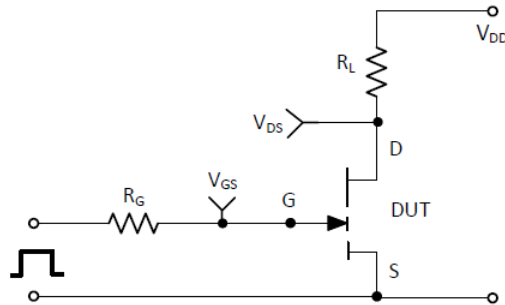
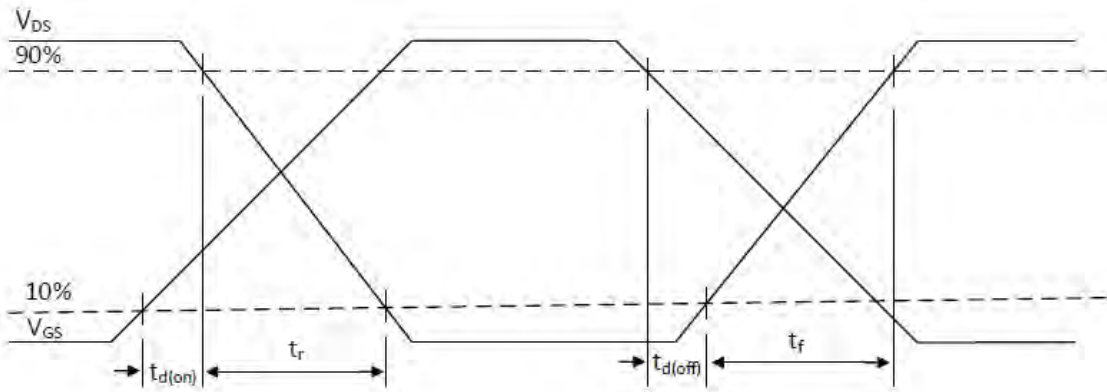

Figure 21: switching time test circuit
Figure 22: switching time waveforms
(7) See Figure 21 and Figure 22 for timing test circuit diagram and definition waveforms.
(8) LP is the switching circuit parasitic inductance.